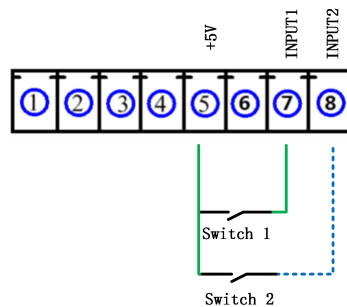

Fig.3 Control signal interface wiring diagram
3.2.2. External emergency stop function wiring diagram (J4) Figure 3